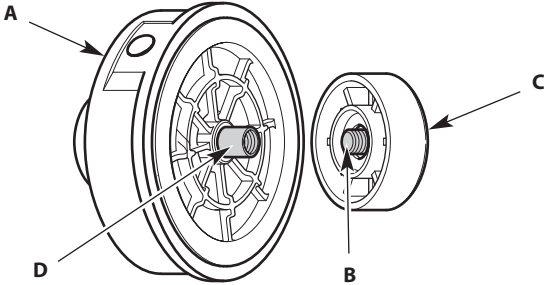

Fig. 1
1. Hold the cutting head in place (Fig. 1). Turn the bump knob clockwise to unscrew it from the cutting head (Fig. 1).
2. Slide the cutting head off of the arbor (Fig. 1).
3. Inspect the bolt inside the bump knob to make sure it moves freely (Fig. 1). Replace the bump knob if it is damaged.
5. While holding the inner reel and outer spool together, slide the cutting head onto the arbor (Fig. 1). Make sure that the cutting head fits securely onto the hexagonal portion of the arbor.
6. While holding the inner reel and outer spool together, screw the bump knob on counterclockwise (Fig. 1). Tighten the bump knob securely.